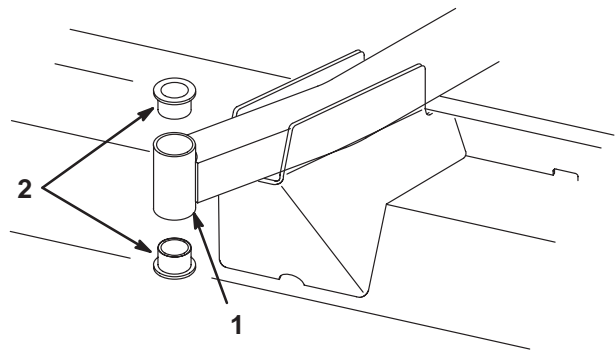

Figure 32
- Insert a pin punch into the top or bottom of the mounting tube and drive the bushing out of the tube. Also drive the other bushing out of the tube (Fig. 32). Clean the inside of the tubes to remove dirt.